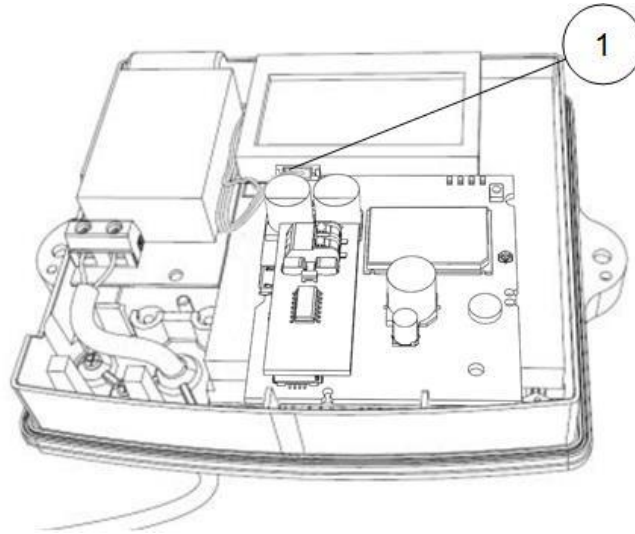

Figure 7: Connecting the power
Connect the power connector (1) from the power supply to the CMi2130, as illustrated by Figure 7.